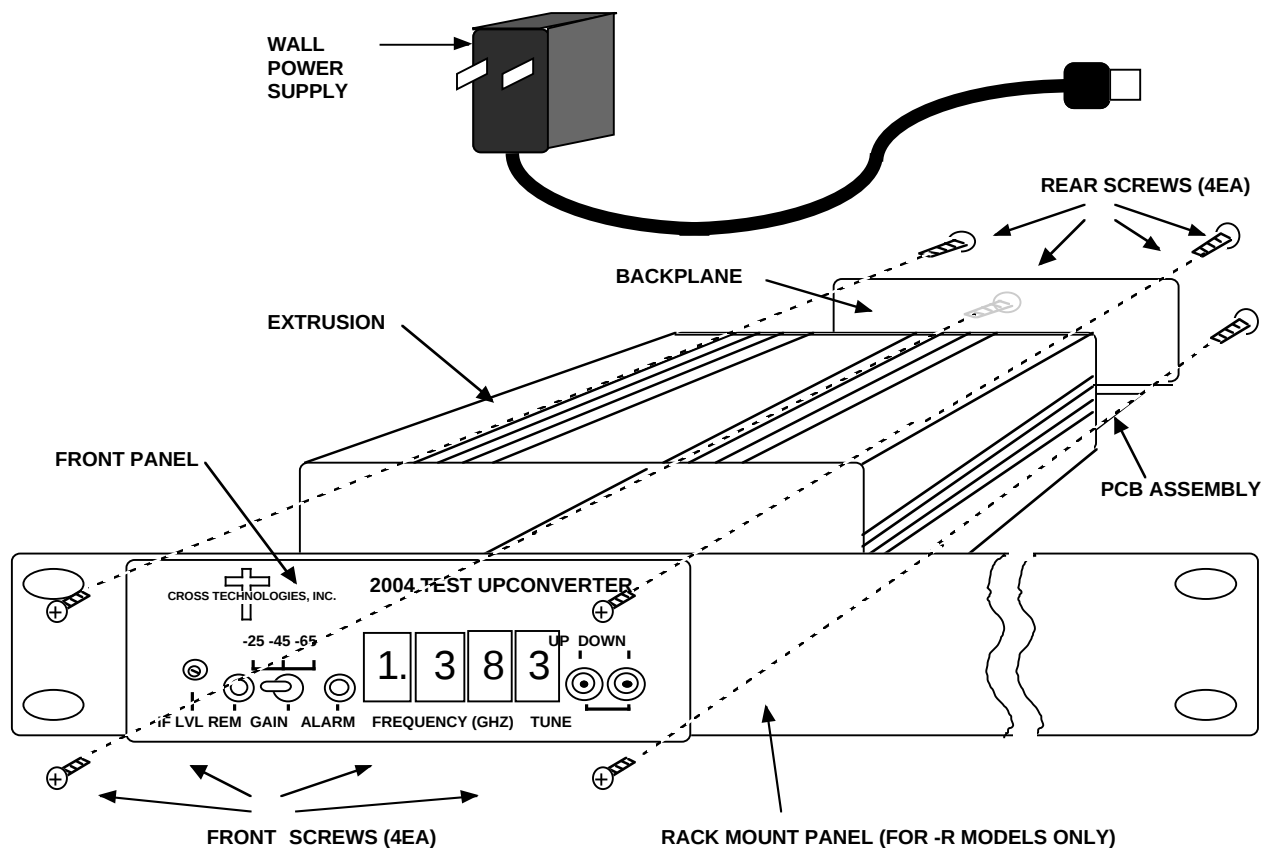
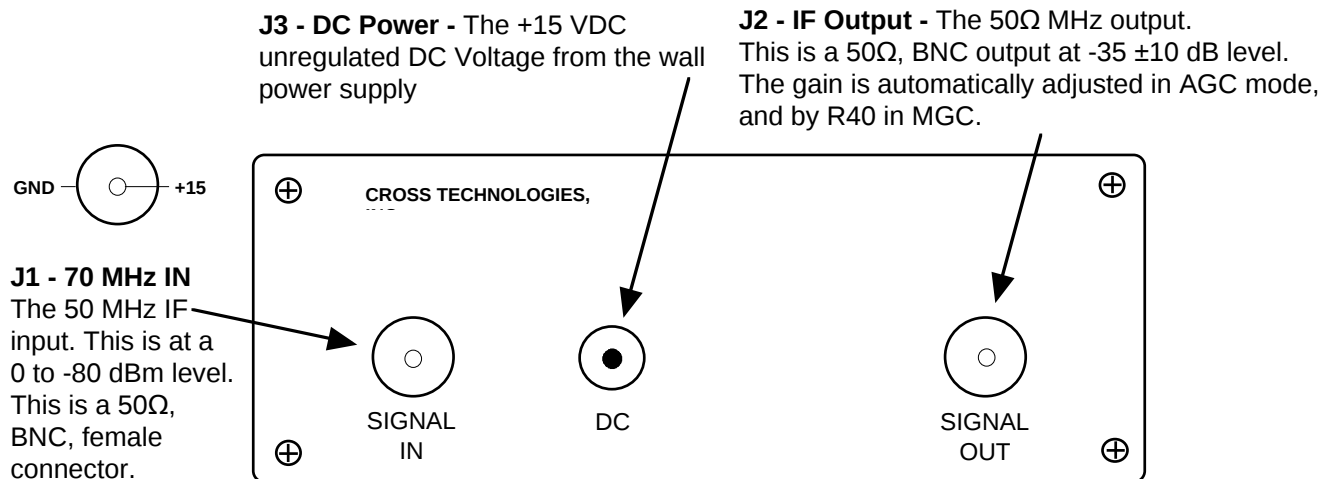

FIGURE 2.1 SERIES 2000 ASSEMBLY DRAWING
Figure 2.3 2097 Rear Panel Inputs and Outputs
2.3 Input / Output Signals - Figure 2.3 shows the input and output signals to the 2007.
- 2.) Remove four (4) **rear panel screws** (see Figure 2.1). Remove any other screws on the extrusion.
- 5.) Install four (4) **rear panel screws**. Install any other screws on the extrusion.
- 3.) Connect a 0 to -80 dBm signal to 70 MHz IF In, J1 (*Figure 2.1, Figure 2.3*).